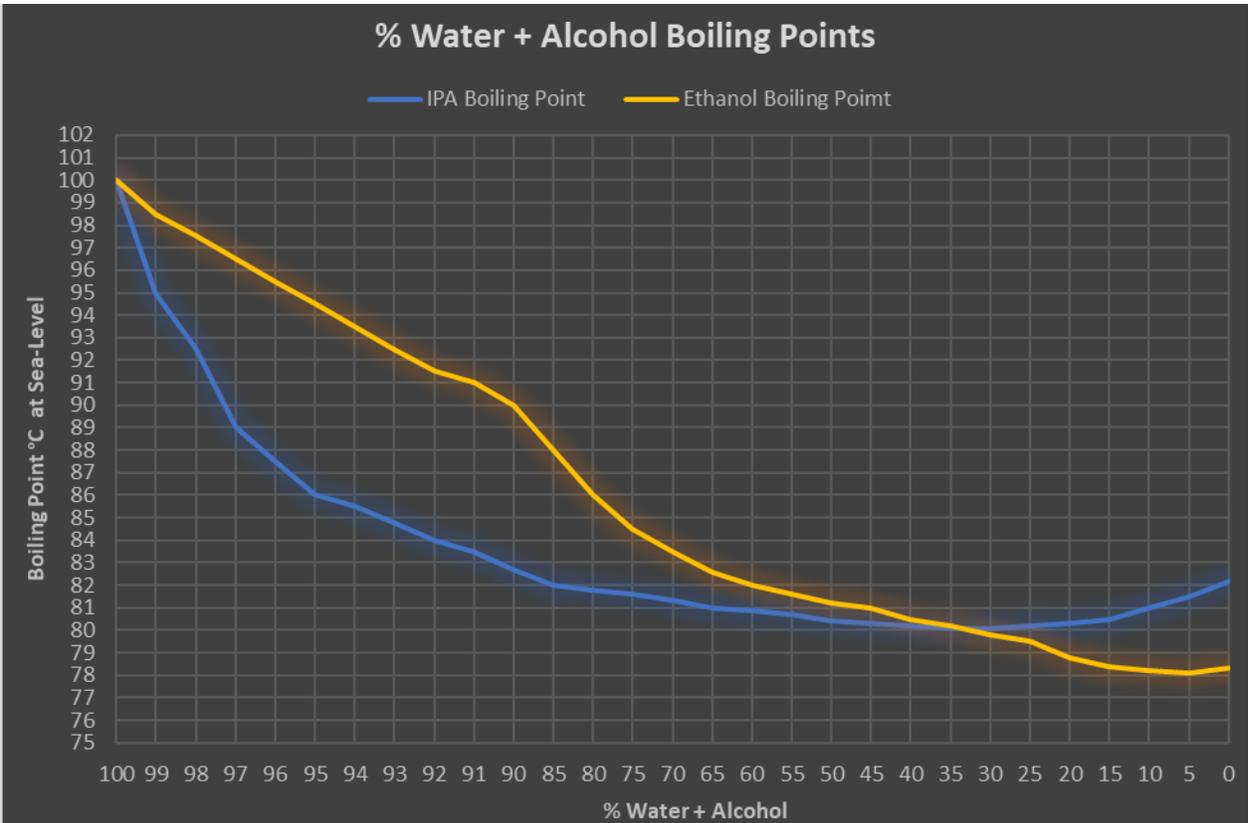

Figure 37 – Water + Alcohol Boiling Points
- VIII.8.2.b Explosion limits are based on the concentration at 25°C/77°F that can explode if an ignition source is applied. At 100% IPA, the lower and upper explosive limits are 2.3 to 13.2%. But, even diluted with water, at 25% IPA + water, the lower and upper explosive limits can be 2.3 to 7.1%. Data source - *Effects of upper explosion limit for isopropyl alcohol by steam, inerting at 1 atm and 150_C by 20-L-apparatus, Shang-Yi Shen • Jia-Chi Chen • Shang-Hao Liu, Ron-Hsin Chang, Horng-Jang Liaw, Chi-Min Shu J Therm Anal Calorim (2013) 113:1619–1624 (74).*
- VIII.8.2.c For information, a cigarette is not a credible ignition source for alcohol, but an electrical arc/spark is; reference: *Geiman, Justin & Fuss, P., (2013). Investigation of cigarettes as an ignition source for Coleman fuel. Fire and Materials 2013 - 13th International Conference and Exhibition, Conference Proceedings. 759-768 (15).*
- VIII.8.3 The purpose of alcohol is mixed. IPA by itself it is often used as a drying agent and diluted 5% to 25% with water able to significantly reduce its boiling point (vapor-pressure) as noted **Figure 37**. However, Ethanol+water does not reduce the boiling point the same amount mostly contradicting its use as a drying agent.